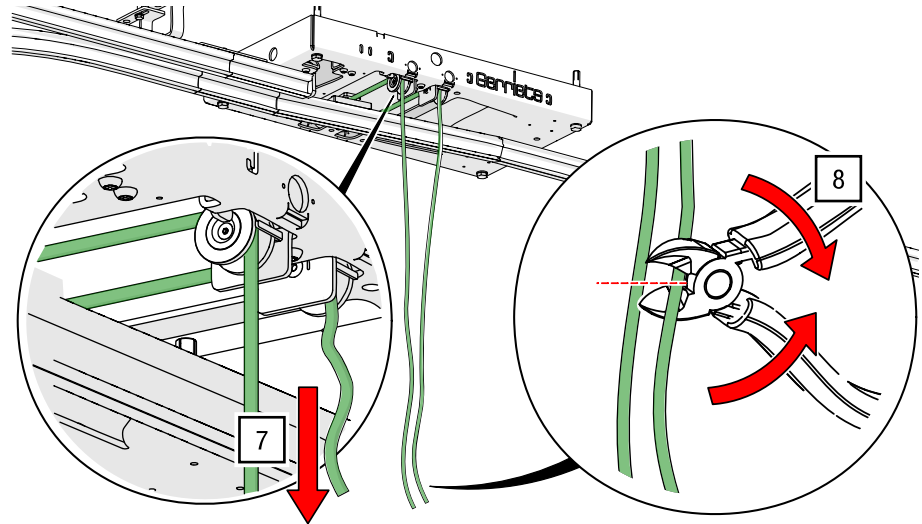

Fig. 136: Track switch – Guide cord down and cut off
7. Guide the cord down through the head pulley (see Fig. 136).
8. Cut off the ends at a comfortable working height (approx. 1.1 m) using a wire cutter (tool) and burn the freshly cut surfaces, so that the rope does not unravel (see Fig. 136).